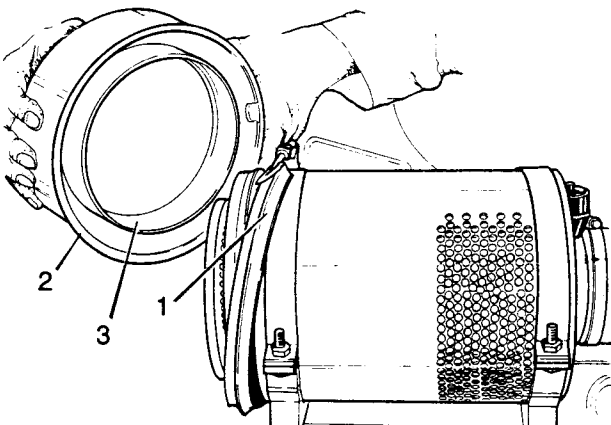

Fig G3.1
- (1) Refer to Fig G3.1. Unscrew the bolt in the dust cup clamp (1) and take off the dust cup (2).
- (2) Lift out the baffle (3) inside the dust cup.
- (3) Empty the dust from the cup and wipe the cup and baffle clean with a dry cloth.
- (4) Fit the baffle into the dust cup.
- (5) Replace the dust cup with the arrows pointing upwards and secure with the clamp.